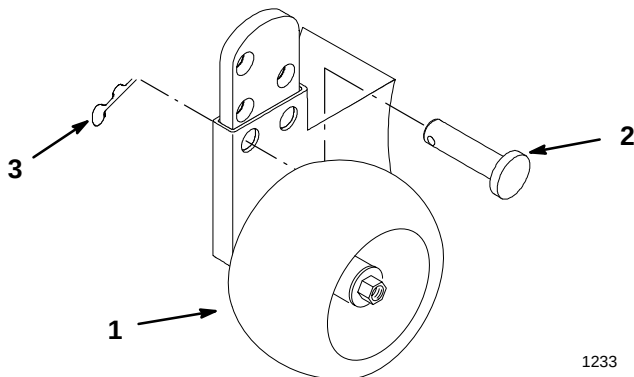

Figure 19
2. Remove hairpin cotter and pin to change hole location (Fig. 19).
3. Select a hole position so the wheel is $\frac{3}{8}$ " (9.5 mm) off the ground for the height-of-cut to be used (Fig. 19).